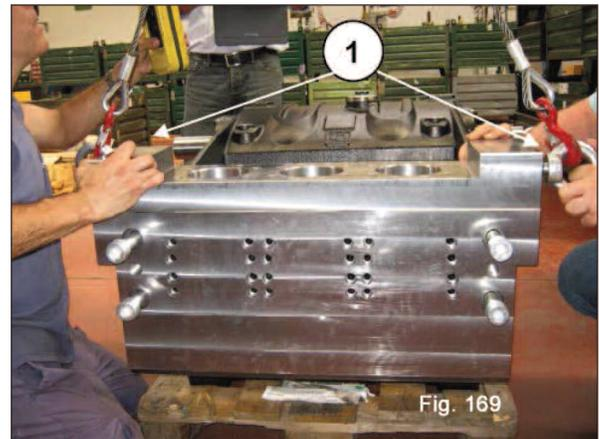

Fig. 169
Fit (2) M24 eyebolts in the outlet flange fixing holes (1, fig. 169) and then refit the manifold to the front casing, taking care not to damage the locating pins in the casing (1, fig. 170) and secure it with the (4) M24 screws. Tighten the M24 screws with a torque wrench as described in Section 3.